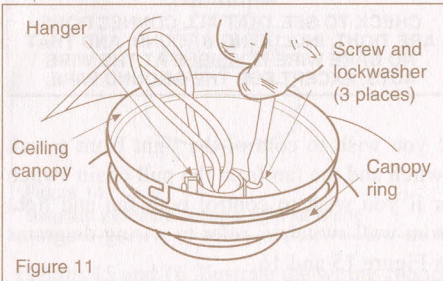

Figure 11
4. Mount the ceiling canopy and the upper motor housing to the hanger by tightening the three screws and spring washers (Figure 11).
THE HOOK AS SHOWN IN FIG. 13 IS ONLY TO BALANCE FAN WHILE ATTACHING THE WIRING. FAILURE TO HANG AS SHOWN IN FIG. 11 MAY RESULT IN HOOK BREAKING CAUSING THE FAN TO FALL. HOOK MUST PASS FROM INSIDE TO OUTSIDE OF CANOPY.